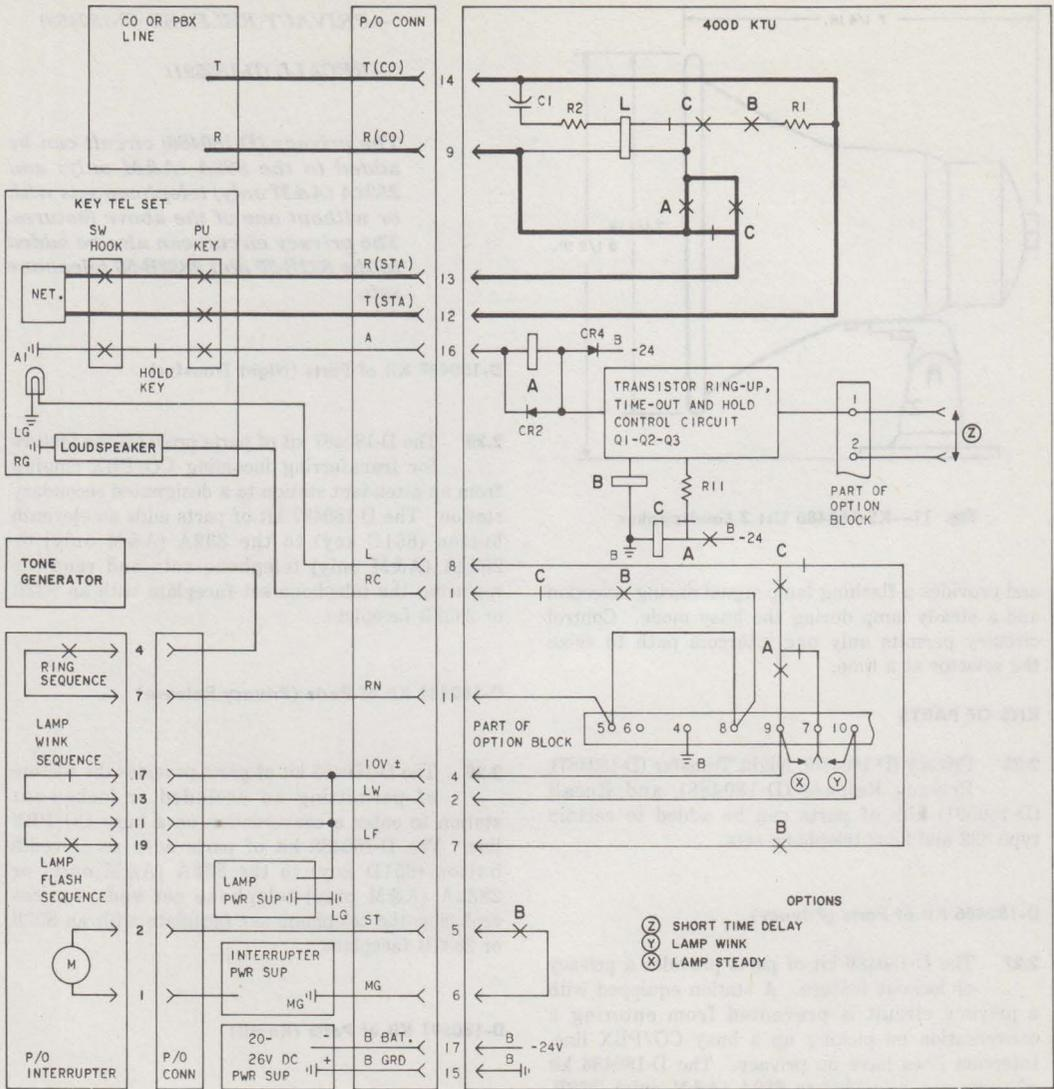

Fig. 12—Condensed Functional Schematic of 400-Type KTU (CO/PBX Line Circuits)
2.17 The 400-type KTU (Fig. 12) is a 4-inch unit which provides a key telephone set with CO or PBX line service. Additional information on the 400-type KTU may be found in Section 518-215-400 and CD- and SD-69513-01.